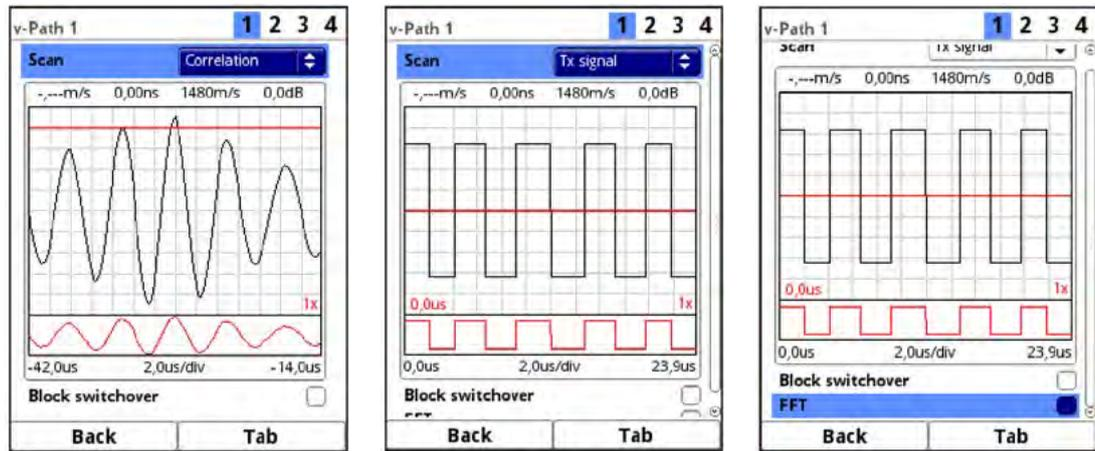

Fig. 44-4 Correlation / Tx signal
- >Correlation<** (Fig. 44-4)
- >Tx signal<** (Fig. 44-4)